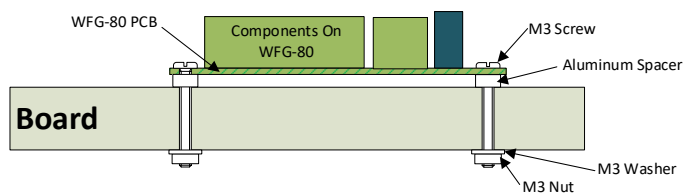

Figure 6 Mounting Suggestion
- (6) Mount the unit using the four M3 metric screws, nuts and spacers provided. Mount the unit on a suitable piece of board, either your baseboard (top or bottom) or a separate board perhaps at the front of your model railroad. The component side of the module should face away from the board as in Figure 6. It is a good idea to mount it somewhere that is easily accessible. If you omit the spacers be sure not to tighten screws so that the unit bends. Take care that no part of the unit touches any metal as this may cause a short circuit and result in permanent damage. Do not mechanically stress or bend the module as this may cause damage. **Take care to ensure that there is adequate ventilation to avoid overheating.**
- (7) **CHECK YOUR WIRING!** Turn on the power. You may test the unit using WFG-80 Web Pages described in the next section. Later you may decide to use the Tower Operator App. Refer to the Tower Operator Quick Start, or Full Help Pages for instructions on setting up a schematic control panel on your Windows or Android computer or tablet.